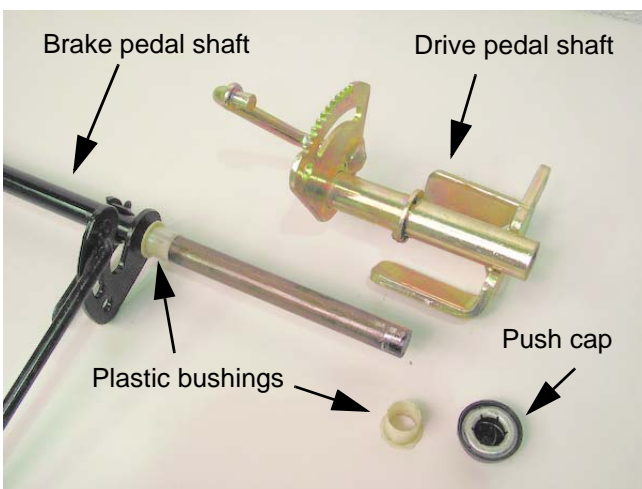

Figure 5.27
- Separate the two concentric shafts. See Figure 5.27.